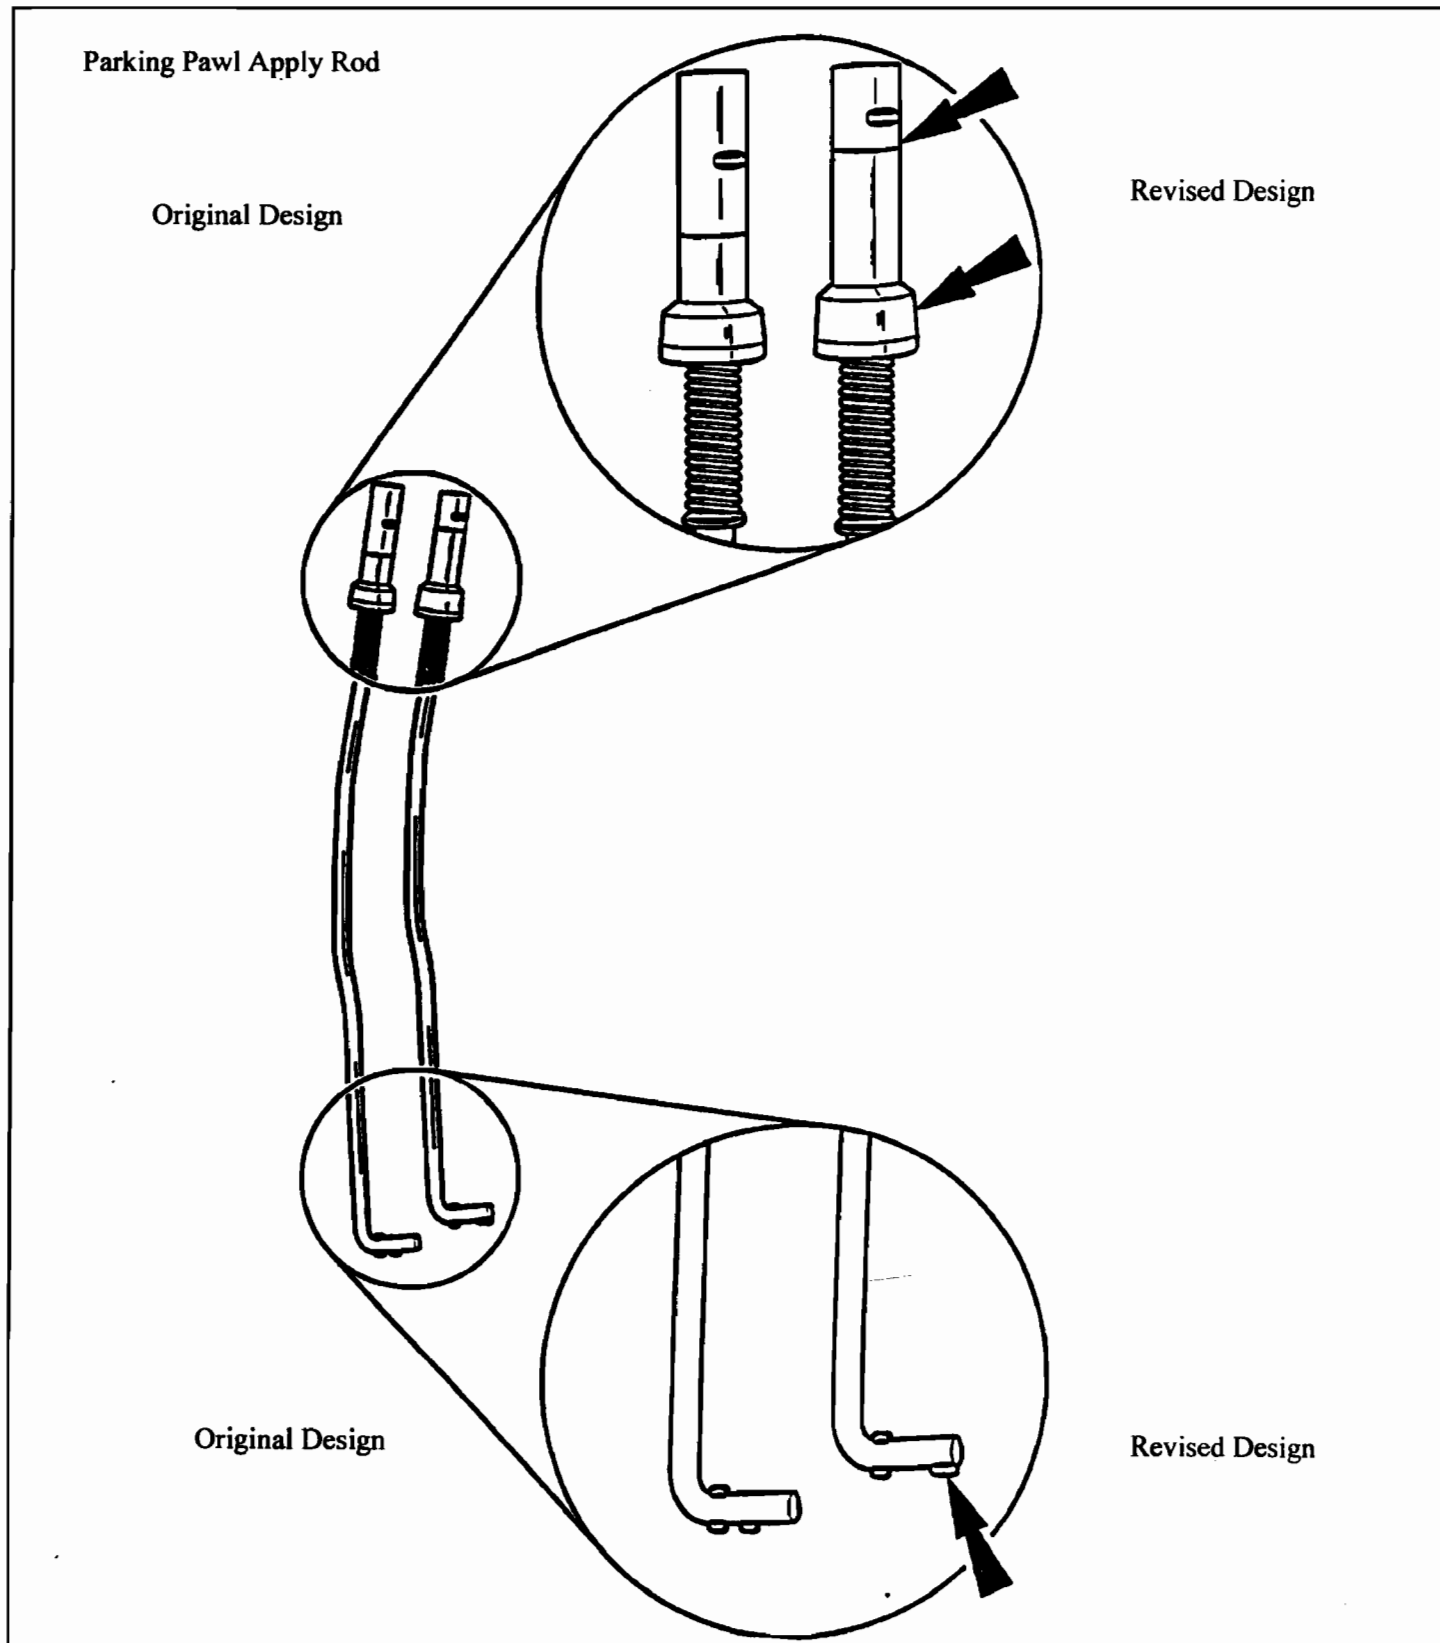

Figure 5
- Figure 5-Parking Pawl Apply Rod